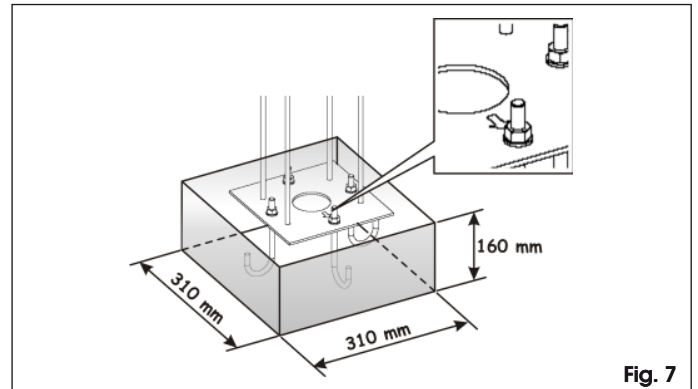

Fig. 7
2. Make a foundation plinth as shown in Fig. 7.
3. Wall the foundation plate as shown in Fig.7, supplying one or more sheaths for routing electrical cables.